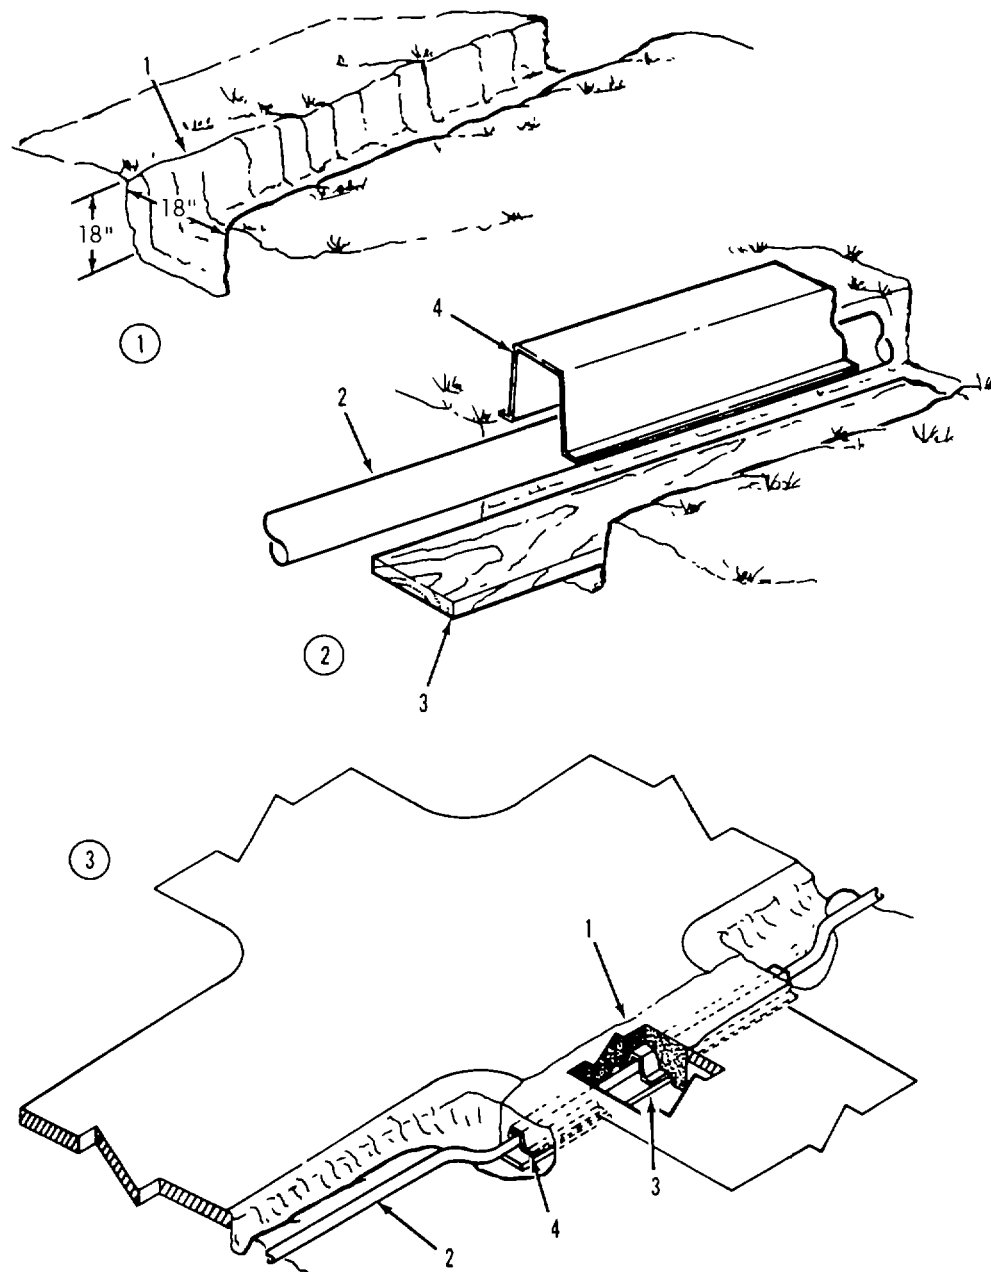

Figure 2-32. Roadway Crossing Guard Removal.
- c. Remove Roadway Crossing Guards. Refer to figure 2-32.